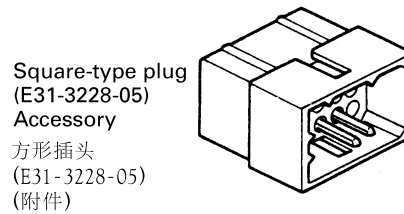

Fig. 4-1 / 图 4-1
1. Remove the connector with jumper from the external speaker connector on the rear panel of the radio. (Fig. 4-1)
1. 从本机后侧面板的外部扬声器连接器上拆下连接器和跳接器(图4-1)。